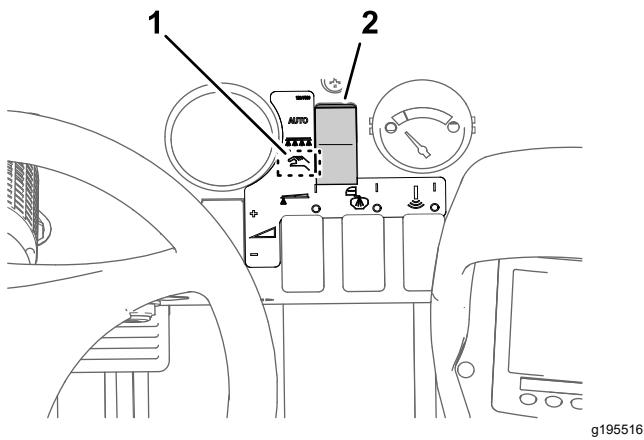

Figure 41
2. Set the sprayer mode button to the Manual Mode (Figure 41).